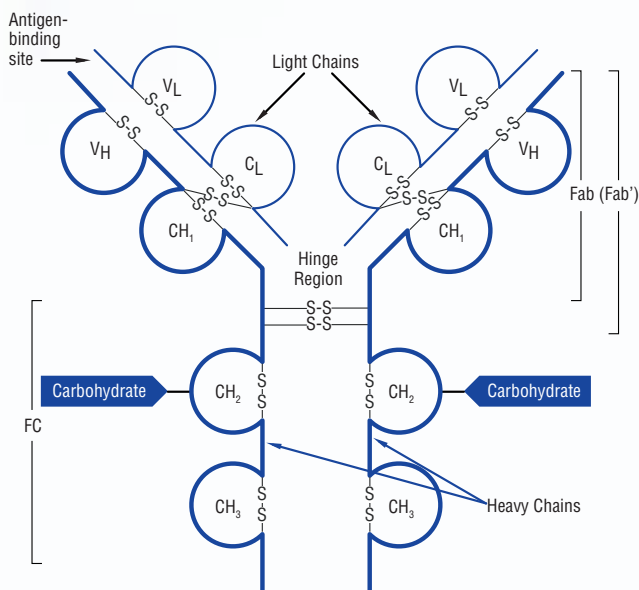

Figure 1. Structure of an immunoglobulin.
Antibody (or immunoglobulin) molecules are glycoproteins composed of one or more units, each containing four polypeptide chains: two identical heavy chains (H) and two identical light chains (L) (Figure 1). The amino terminal ends of the polypeptide chains show considerable variation in amino acid composition and are referred to as the variable (V) regions to distinguish them from the relatively constant (C) regions. Each L chain consists of one variable domain V_L and one constant domain C_L . The H chains consist of a variable domain, V_H , and three constant domains CH_1 , CH_2 and CH_3 . Each heavy chain has about twice the number of amino acids and MW (~50,000) as each light chain (~25,000), resulting in a total immunoglobulin MW of approximately 150,000.